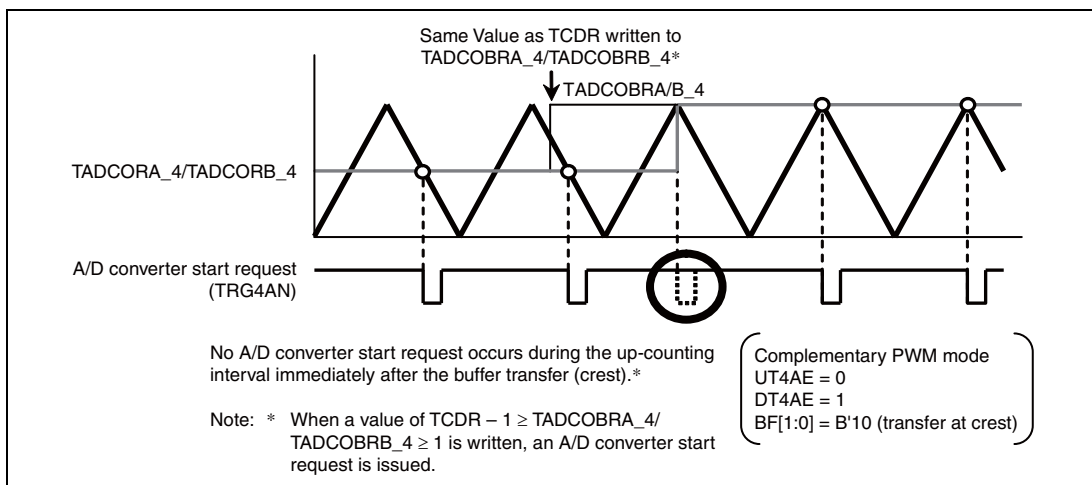

Figure 11.140 A/D Converter Start Request Operation when Same Value as TCDR Is Written to TADCOBRA_4/TADCOBRB_4
- When the value of TADCOBRA_4/TADCOBRB_4 is the same as that of TCDR and the DT4AE or DT4BE bit in TADCR is set to 1, and then buffer transfer takes place at the crest of TCNT_4, no A/D converter start request occurs during the down-counting interval immediately after the transfer (figure 11.140).